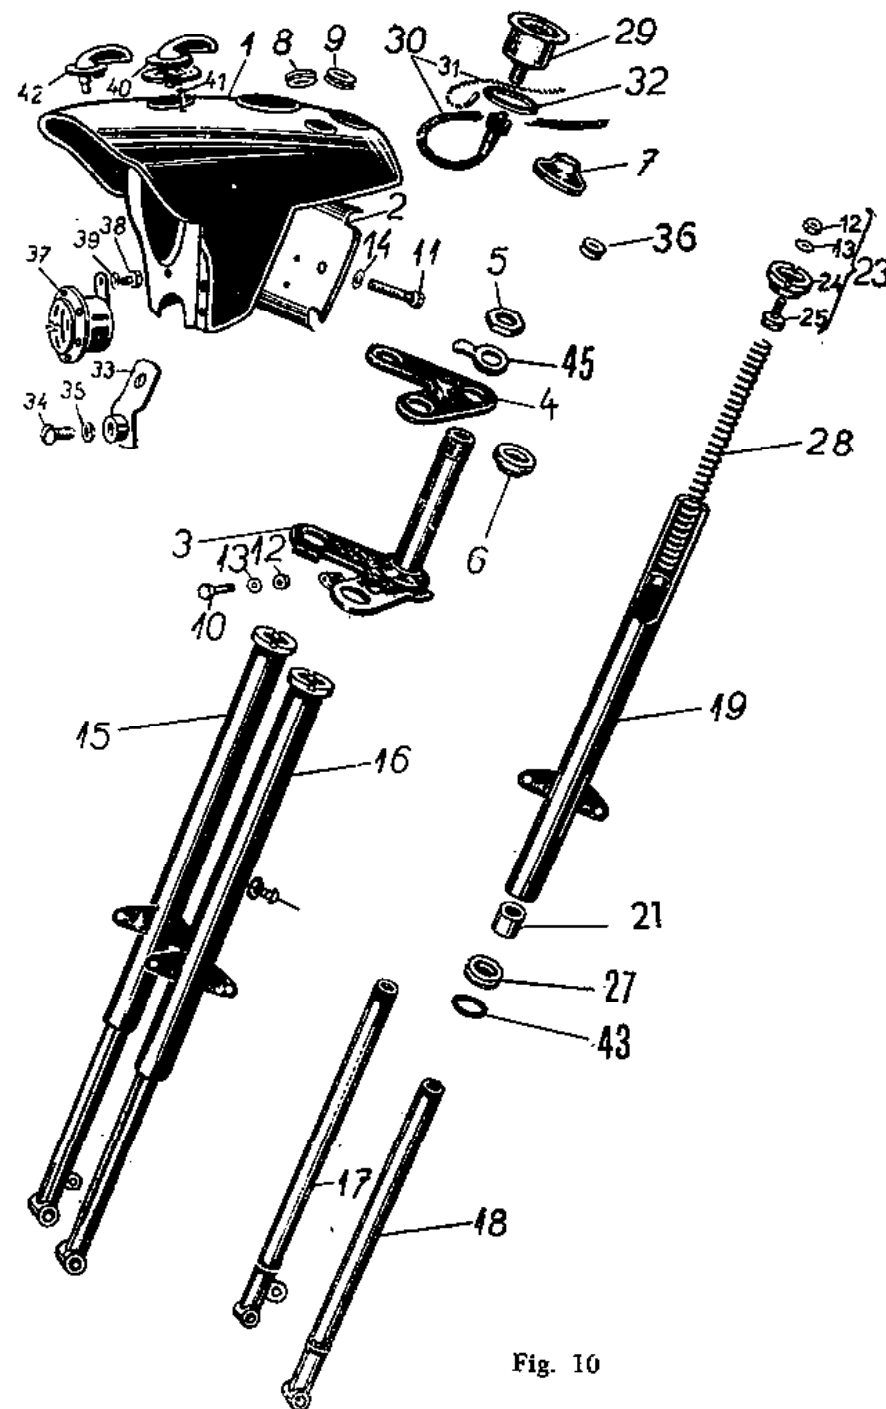

Fig. 10
14. Dismantling the headlamp guard (fig. 10)
15. Dismantling the fork from the frame (fig. 10)
16. Dismantling the sliders from the front fork shoulders (fig. 10)